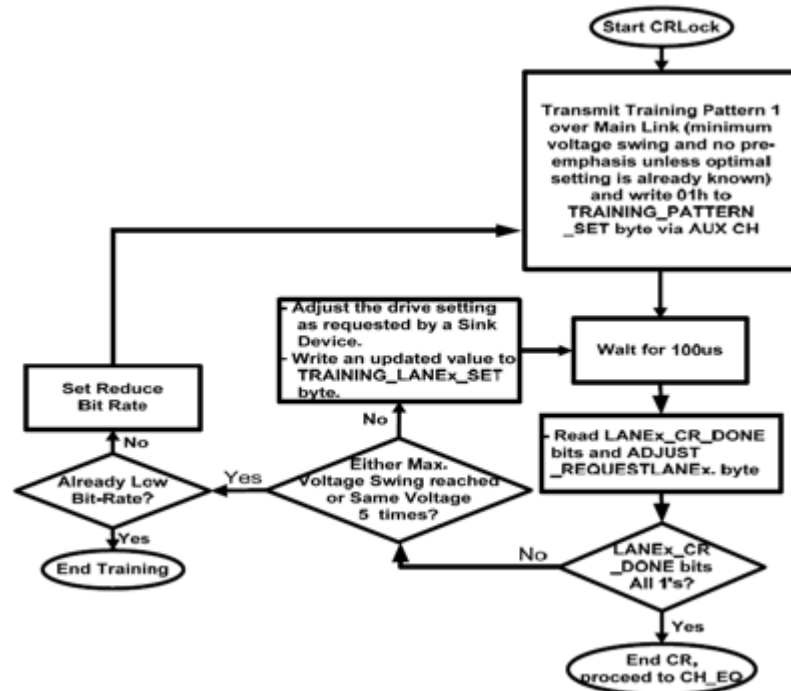
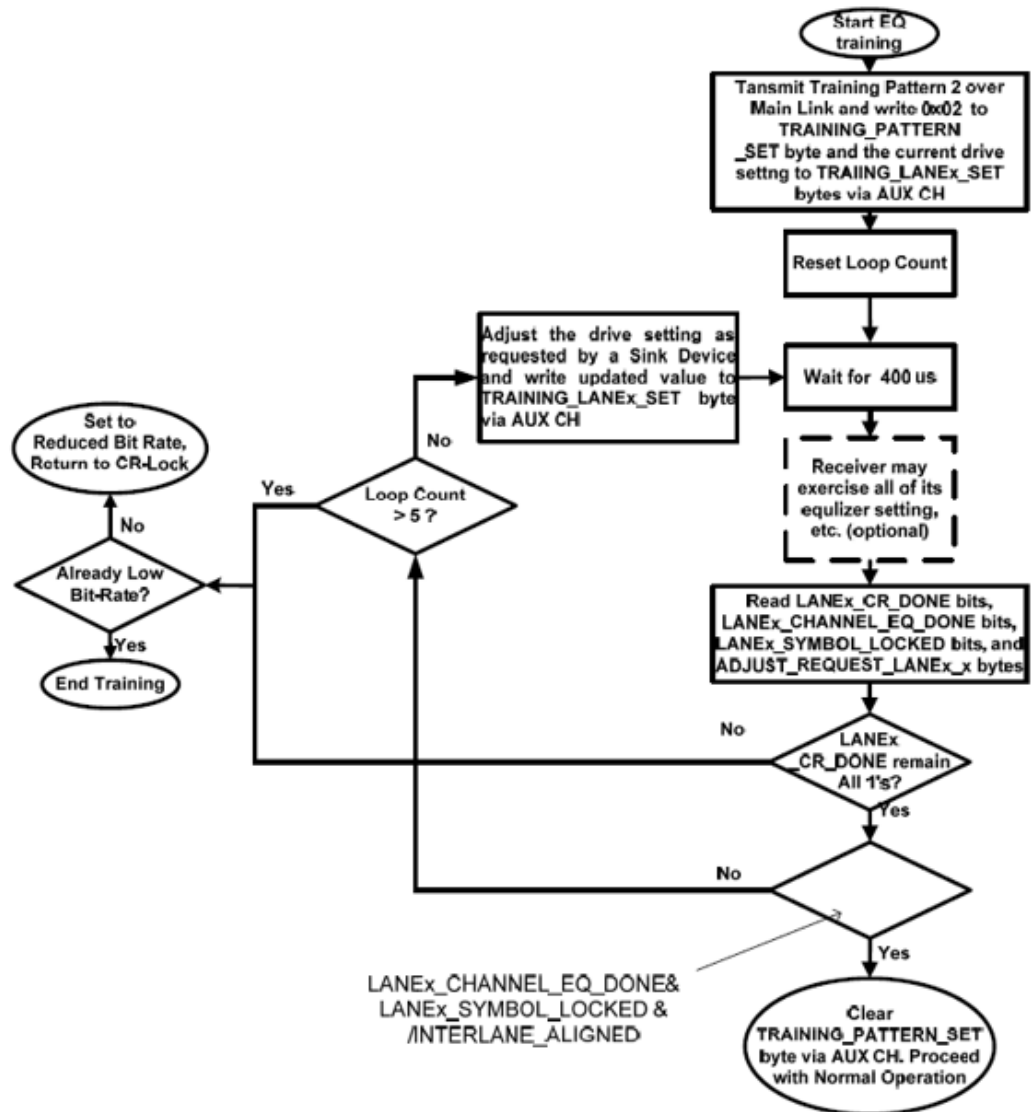

Figure 100 Clock Recovery Sequence of Link Training
Figure 101 Channel Equalization Sequence of Link Training
- j Source reads LANE0_1_STATUS, LANE2_3_STATUS and LANE_ALIGN__STATUS_UPDATED. Since these registers are already set in step 3-5, source exits the Clock Recovery Sequence of Link Training (Figure 100) and go to Channel Equalizer sequence for Link Training (Figure 101).